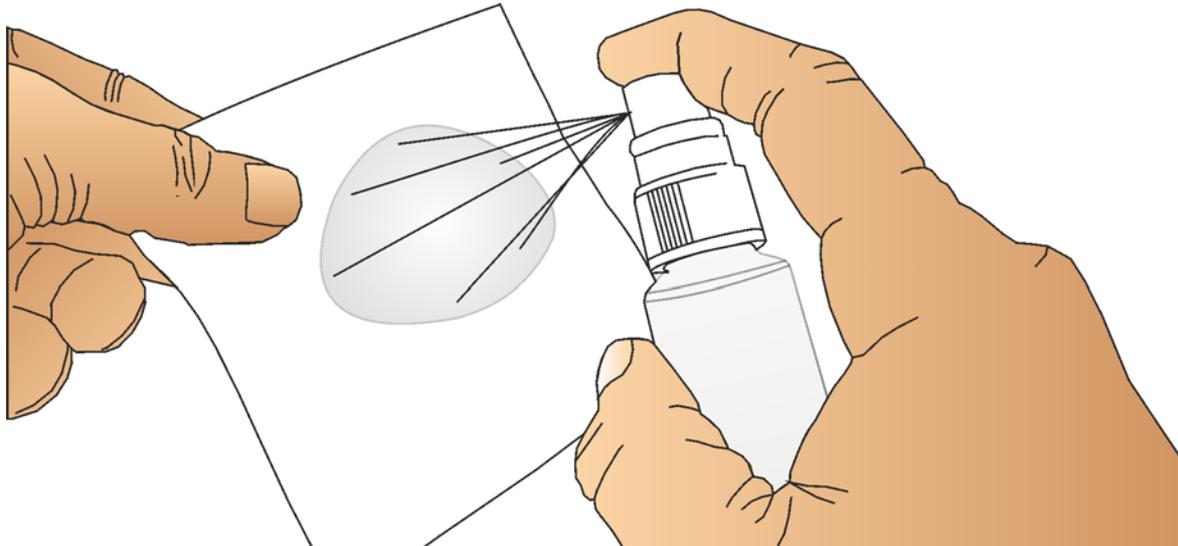

Figure 3.55 Applying cleaner to the lens paper
1. Spray some of the cleaner on to a lens paper, see Figure 3.55